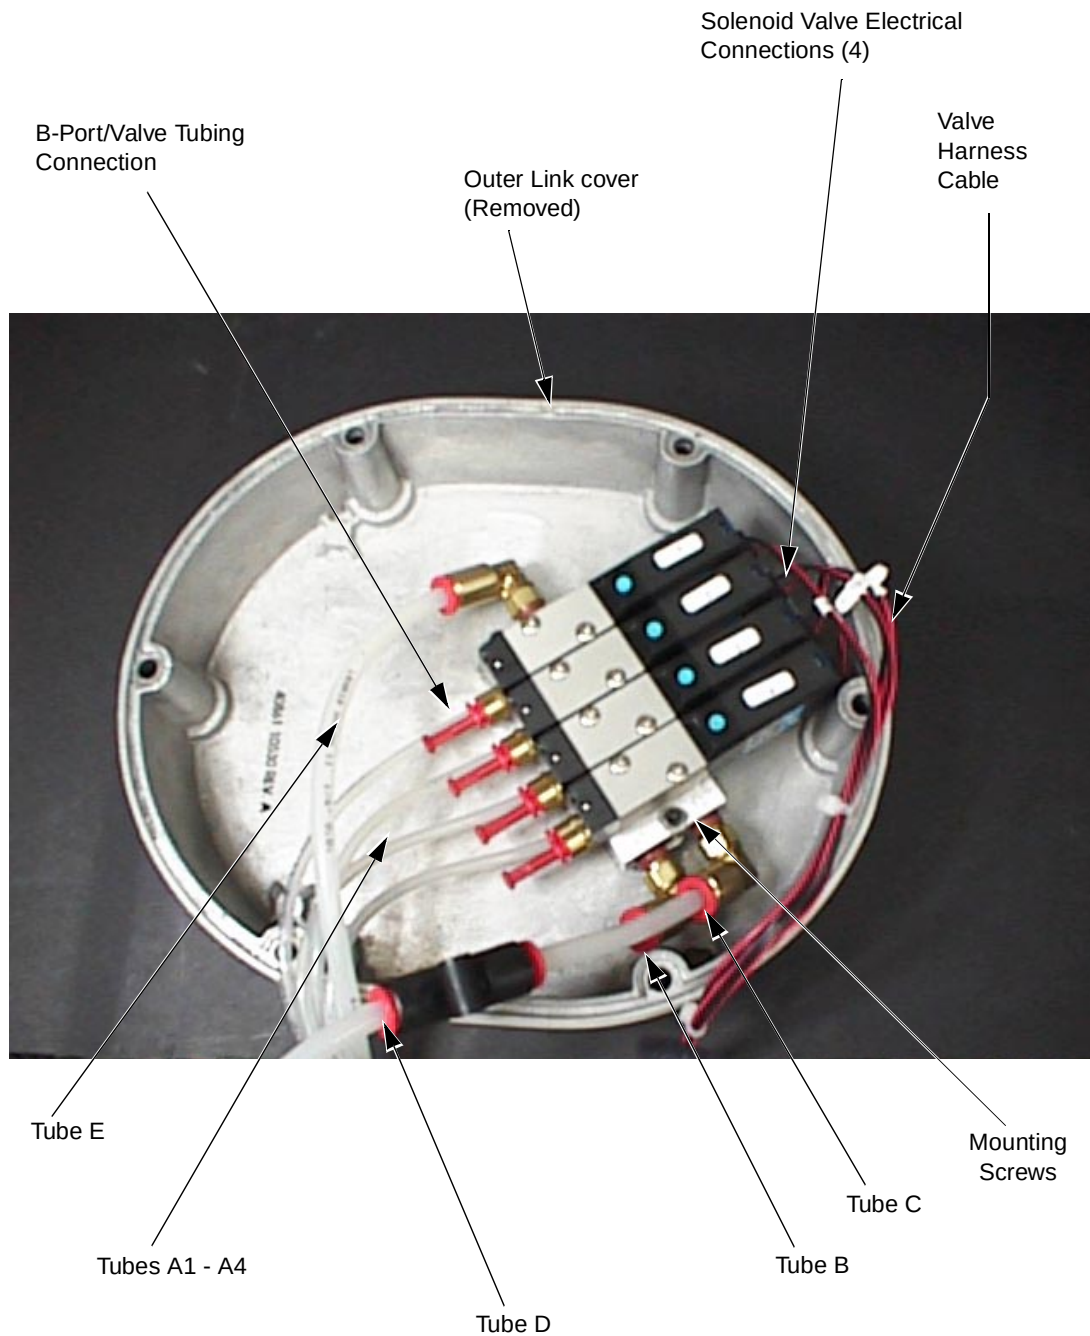

**Figure 7-4. Solenoid Valve Assembly**
The robot has been prewired for a bank of four 24 VDC solenoid valves. Power and signal lines for the solenoids are terminated at a 9-pin D-sub connector mounted inside the outer link cover (see Figure 7-4 on page 144). The signals actuating the valves are directly switchable from  $V^+$  using software signals 3001 and 3002. Refer to the SIGNAL, OPEN, OPENI, CLOSE, and CLOSEI commands in the  $V^+$  *Language Reference Guide* for additional information. Each driver is designed to handle 24 VDC solenoids at a nominal 0.075 mA per valve.
3. Plug the four individual two-wire connectors on the valve harness into the solenoid valves. Match each connector to the appropriate valve as follows (see Figure 7-4 on page 144):
4. Mount the Adept-XL 24V solenoid valve assembly, P/N 30862-00100, to the joint 2 upper cover using (see Figure 7-4 on page 144):